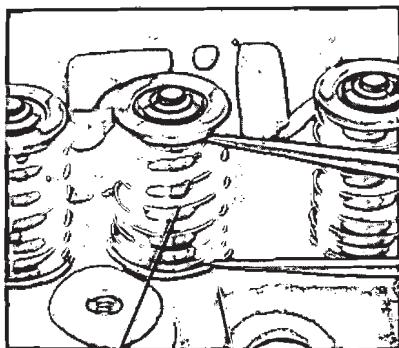

FIG. 17—Typical Valve Assembly
2. Install each valve (Fig. 17) in the valve guide from which it was removed or to which it was fitted. Install a new stem seal on the valve.